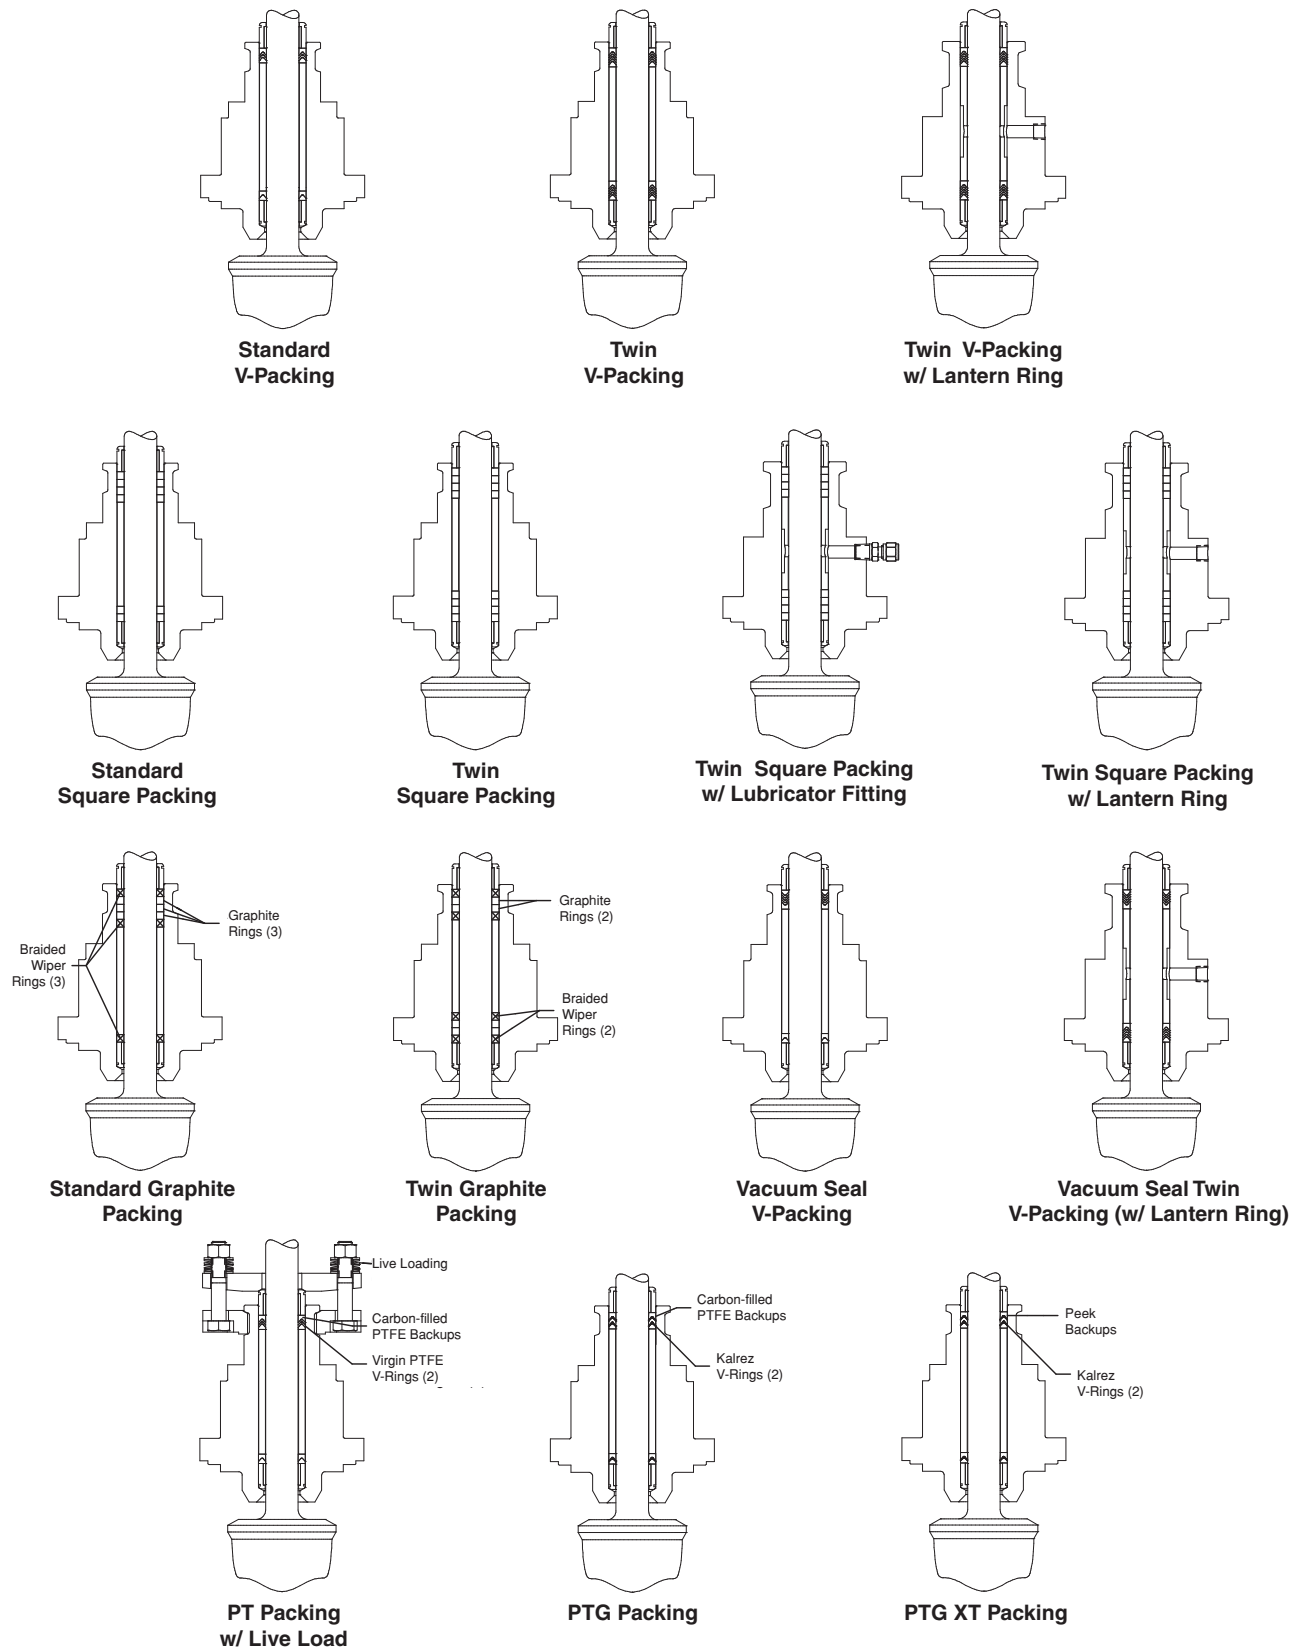

Figure 4 - Typical Packing Configurations
- If the packing set has been removed, refer to Figure 4 and reassemble new packing set exactly as indicated. When reassembling the packing set into the bonnet, make sure that a gap of at least 1/8 in. (3.2 mm) is left on the top of the packing box to assemble the upper guide. Spacers with different lengths allow using several configurations of packing, as twin seal or packing for vacuum applications. Lubrication of packing set is recommended and this facilitates the reassemble (see recommended lubricants on Table III).